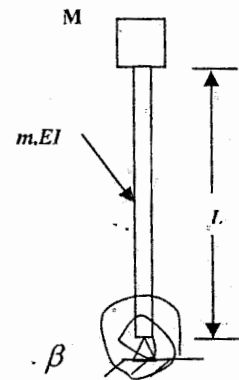

Fig. 4
Q.4 A beam of length L , mass per unit length m and flexural rigidity EI carries a lumped mass M at the top. The beam is supported at the bottom as shown in Fig. 4. Assuming, $y(x,t) = \frac{x}{L} y_1(t) + (\frac{x}{L})^2 y_2(t)$, derive the equation of motion of the system. Calculate frequencies and mode shapes of this two-degree freedom system by assuming $M = mL$ and rotational spring constant, $\beta = EI/L$ N.m/rad (8)